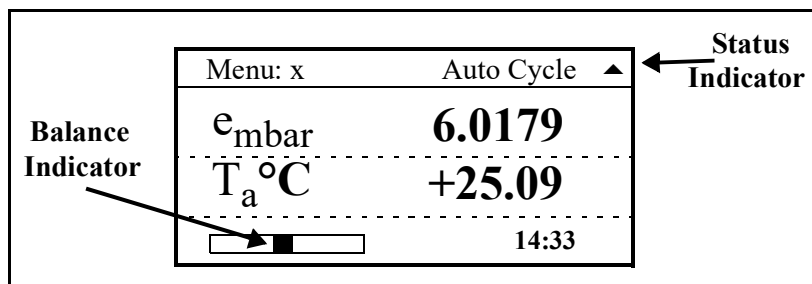

Figure 22: Balance and Status Indicator on OptiSonde Display
- The balance indicator (shown in Figure 22 below) provides a graphic display of how much light is received by the mirror's photodetector. It is also an indicator of the dew layer thickness. This indicator increases and decreases in digital steps.